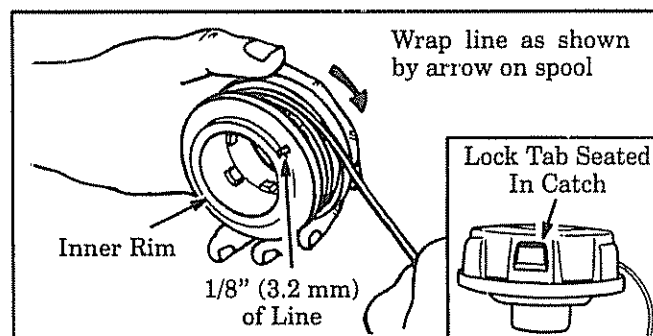

Figure 17
- 3.) Insert 1/16 to 1/8 inch (1.6 - 3.2 mm) of the end of the line through the hole in the inner rim of the spool. Figure 17. Allow no more than 1/8" (3.2 mm) line to extend beyond the rim to avoid interference with tapping action.
- 4.) Wrap line onto the spool firmly and evenly in the direction shown by the arrow on the spool. Figure 17.